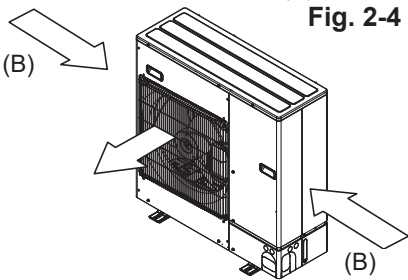

Fig. 2-5
3. Position the unit so that the air outlet blows perpendicularly to the seasonal wind direction, if possible. (Fig. 2-5)